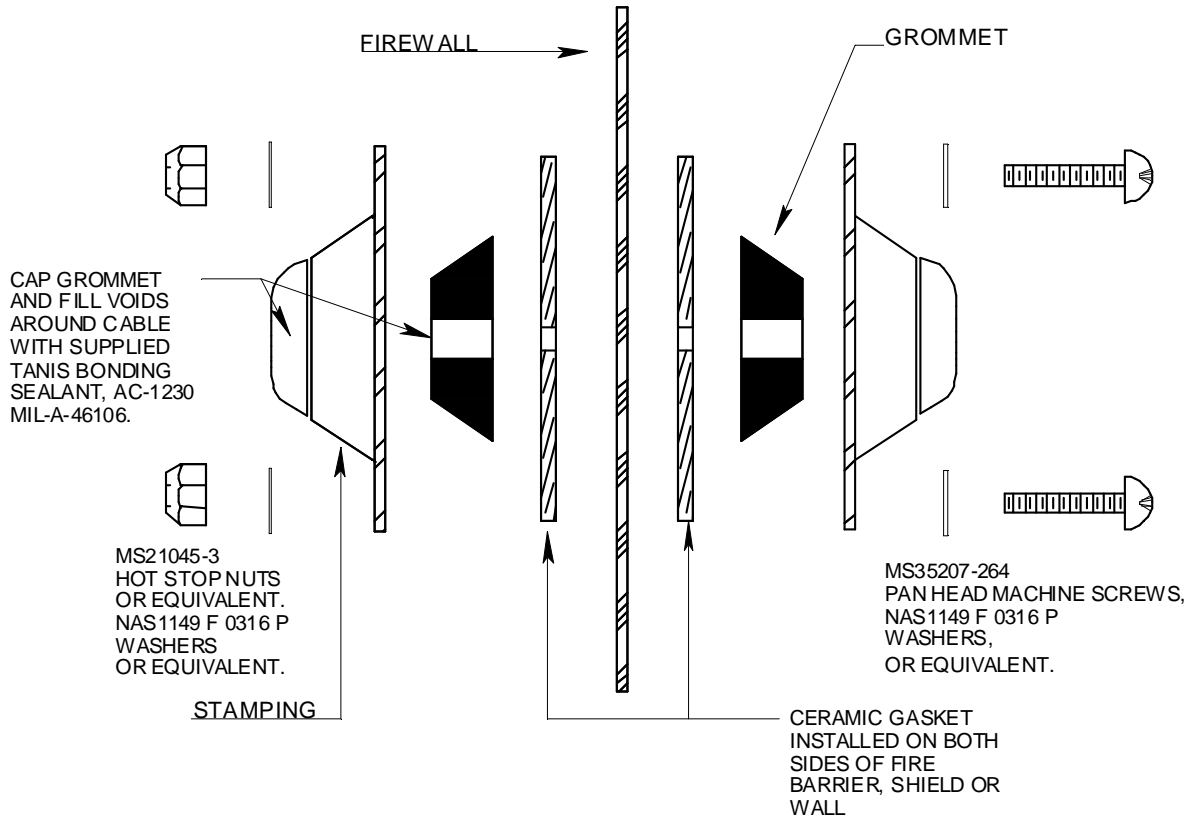

FIGURE 1
Parts are stacked on each side of the penetration and sealed with bonding sealant as shown on page two, figure 1.
4. INSTALL CERAMIC GASKET ON BOTH SIDES OF THE FIREWALL WITH CABLE PASSING THROUGH. INSTALL GROMMETS AND STAMPED HOLDER TO EACH SIDE. SEE FIGURE 1.